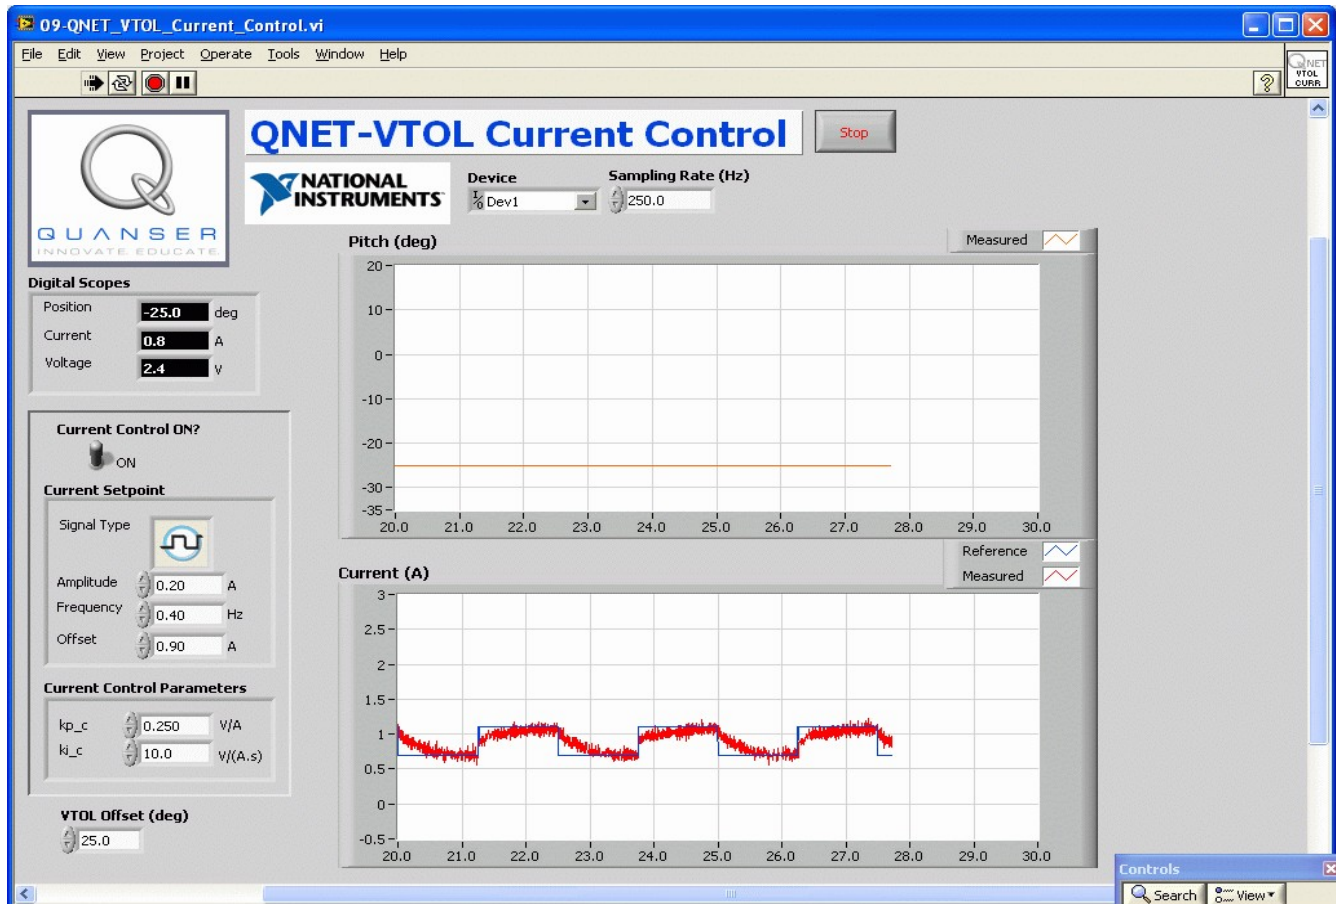

Figure 8: Running the QNET-VTOL Current Control VI with the current-controller.
1. Open the QNET_VTOL_Current_Control.vi as shown in Figure 8, below.
The VTOL Trainer propeller should begin turning at various speeds according to the current command. Examine the reference and measured current response obtained in the *Current (A)* scope. They should be tracking as shown in Figure 8, below.
2. Open the QNET_VTOL_Current_Control.vi as shown in Figure 8, above.
7. Run the VI. The VTOL Trainer propeller should begin turning at various speeds according to the current command. Examine the reference and measured current response obtained in the *Current (A)* scope. They should be tracking.
1. Open the QNET_VTOL_Current_Control.vi as shown in Figure 8, above.